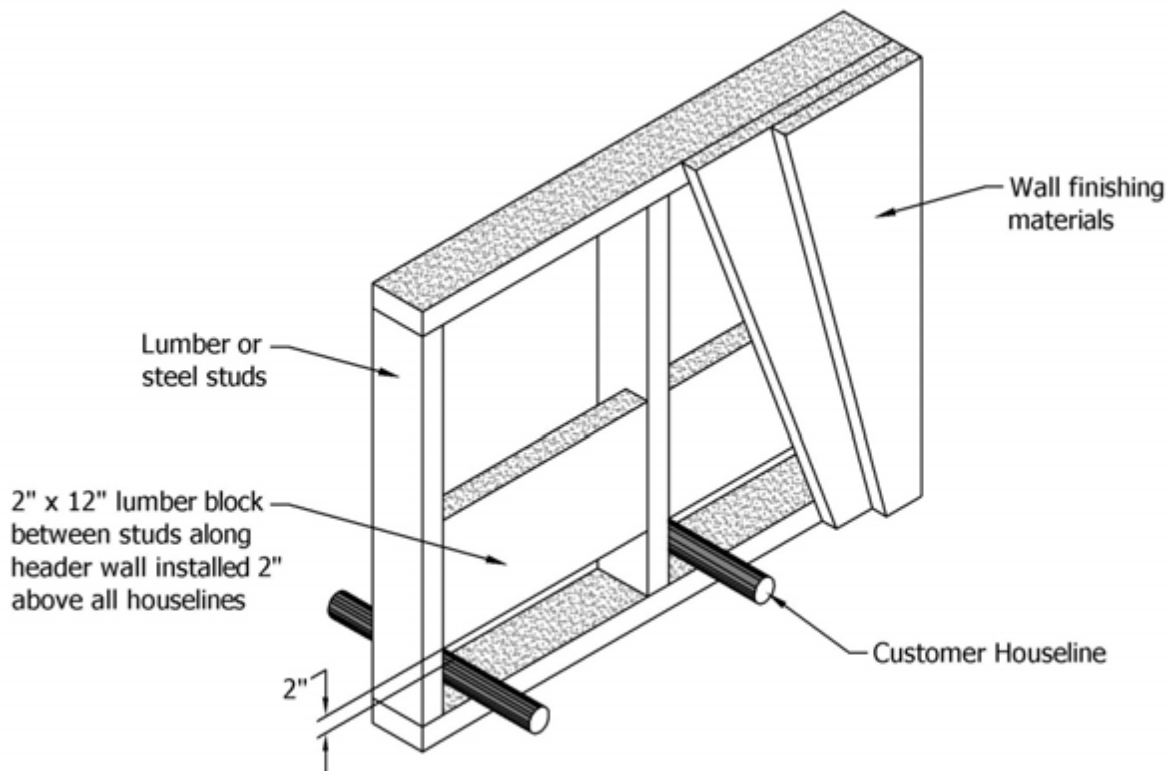

FIGURE 1
3. 2" x 12" lumber blocking installed between studs and 2" above all houselines. (See Figure 1.)